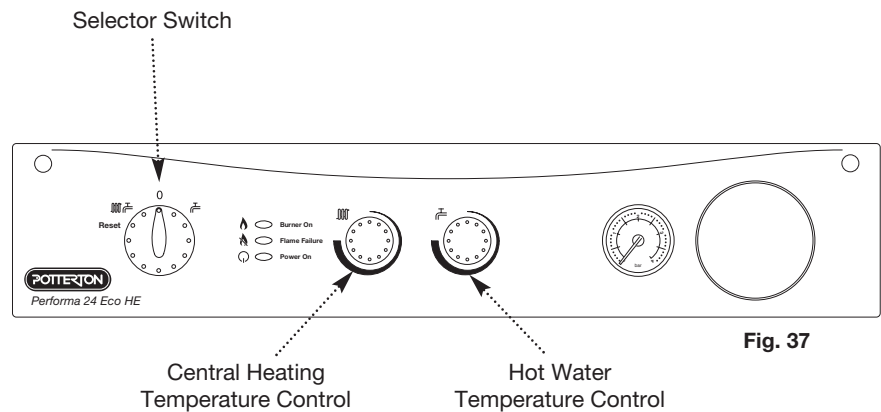

Fig. 37
2. Set the hot water and central heating temperature controls to maximum and the selector switch to the OFF position (Fig. 37).
6. Turn the selector switch to the Central Heating and Domestic Hot Water position (OFF). The power ON light (ON) will illuminate (Fig. 37).